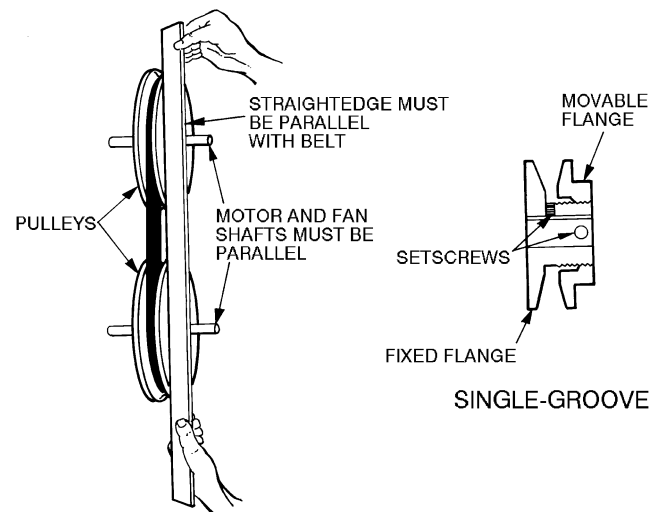

Fig. 6 — Evaporator-Fan Pulley Adjustment
3. Loosen movable pulley flange setscrew (see Fig. 6).
2. Slide fan pulley along fan shaft. See Fig. 6.